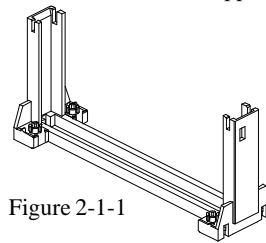

Figure 2-1-1
- Retention Mechanism (RM) - Plastic Guide with captive nuts that hold the S.E.C. Cartridge in the Slot1 connector. (Refer to Figure 2-1-1)